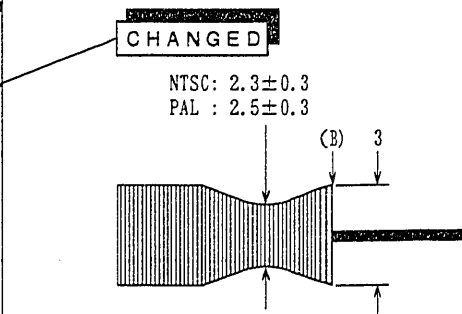

Fig. 3-5
<p>● Adjustment procedure</p> <p>Caution: Before performing this adjustment, refer to Fig. 6-1 and modify the ATF-R jig. Connect the ATF-R jig before supplying power.</p> <p>1) After inserting the alignment tape which was completely rewound, set the camera/recorder to the test mode by the following procedure. [Procedure to set to the test mode] ① Remove the power supply from the camera/recorder. ② Set the CAMERA/OFF/VCR switch to VCR position. ③ Check that the ATF-R jig (SW1: OFF, SW3: ON) is connected and then press the playback button and hold it, then supply the power again to the camera/recorder.</p> <p>&lt;Note&gt; 1. If the mechanical block operates (enters the playback mode) simultaneously when the power is supplied again, the camera/recorder does not enter the test mode. Restart from step (1) again. 2. The test mode is released when the power supply is removed from the camera/recorder.</p> <p>2) Connect an oscilloscope to TP3 on the ATF-R jig and press the PLAY button.</p> <p>3) Synchronize the oscilloscope with TP1 (SW25/30) on the ATF-R jig.</p> <p>4) Set the oscilloscope to (+) slope.</p> <p>◆ Take-up Guide Roller (Fig. 3-5) 11) Set the oscilloscope to (-) slope. 12) Adjust the voltage level control of the oscilloscope so that portion (B) of the waveform is set to 4 graduations.</p> <p>13) Turn RT1 on the ATF-R jig counterclockwise so the voltage at point (C) on the ATF-R jig is <math>1.8 \pm 0.1V</math>. Then check that point (B) of the waveform is set to 3 graduation.</p> <p>14) Adjust the height of the take-up guide roller so the minimum amplitude of the waveform is set to NTSC: <math>2.5 \pm 0.3</math> / PAL: <math>2.3 \pm 0.3</math> graduations.</p> <p>Caution: After adjustment is completed, be sure to reverse the modification to ATF-R jig.</p>